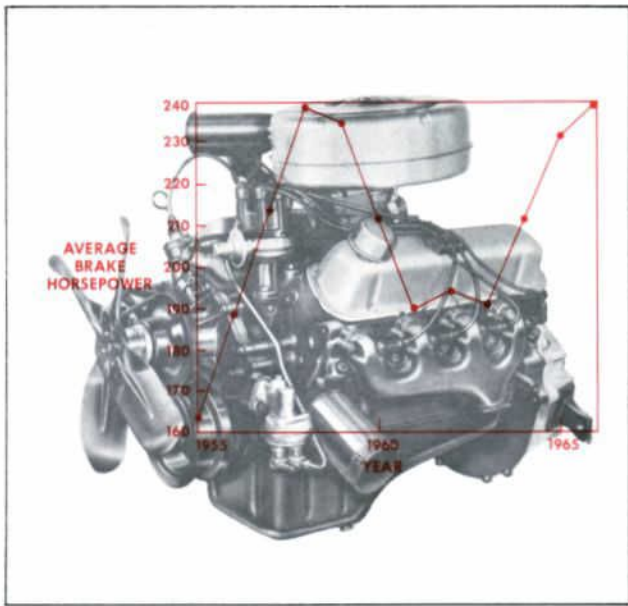

Figure 1—Average Brake Horsepower of Passenger Cars—U.S.A.
- The trend towards more powerful engines (Fig. 1) subjected transmission fluids to increased mechanical shear and heat stresses.